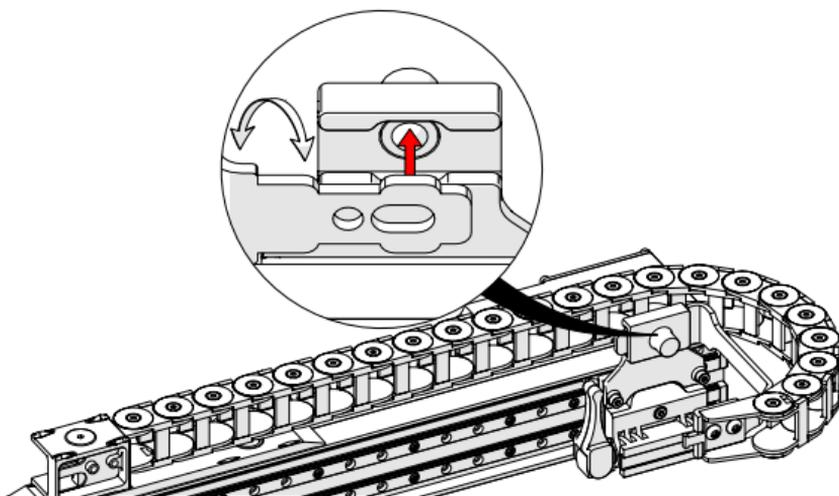

Fig. 59 - Press bracket to carriage
2. Press the cable tray bracket into the rear of the carriage bracket (*Fig. 59*).